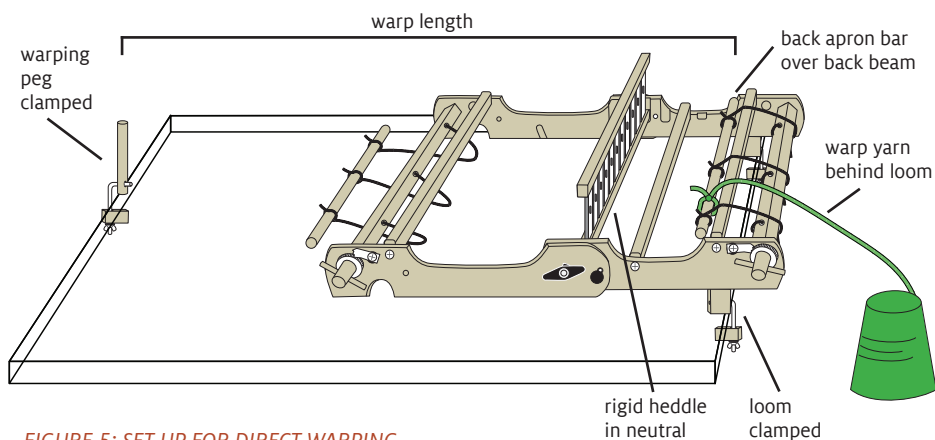

FIGURE 5: SET UP FOR DIRECT WARPING
2. Set up your loom as shown in Figure 5:
3. Set up the warping peg: Clamp the warping peg in front of the loom, as far away from the back apron bar as your desired warp length (Figure 5).
4. Set up the warp yarn: tie the yarn to the back apron bar and set the skein or cone behind the loom, so the yarn comes up over the back beam (Figure 5).